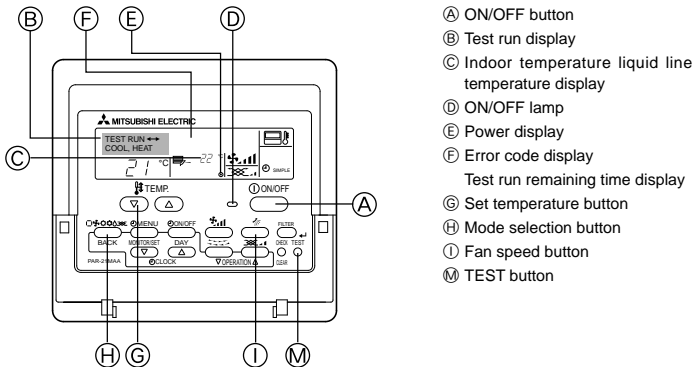

Fig. 6-1
6.2.1. Using wired remote controller (Fig. 6-1)
- ① Turn on the power at least 12 hours before the test run.
- ② Press the [TEST] button twice. → "TEST RUN" liquid crystal display
- ③ Press the [Mode selection] button. → Make sure that wind is blown out.
- ④ Press the [Mode selection] button and switch to the cooling (or heating) mode. → Make sure that cold (or warm) wind is blown out.
- ⑤ Press the [Fan speed] button. → Make sure that the wind speed is switched.
- ⑥ Check operation of the outdoor unit fan.
- ⑦ Release test run by pressing the [ON/OFF] button. → Stop
- ⑧ Register a telephone number.